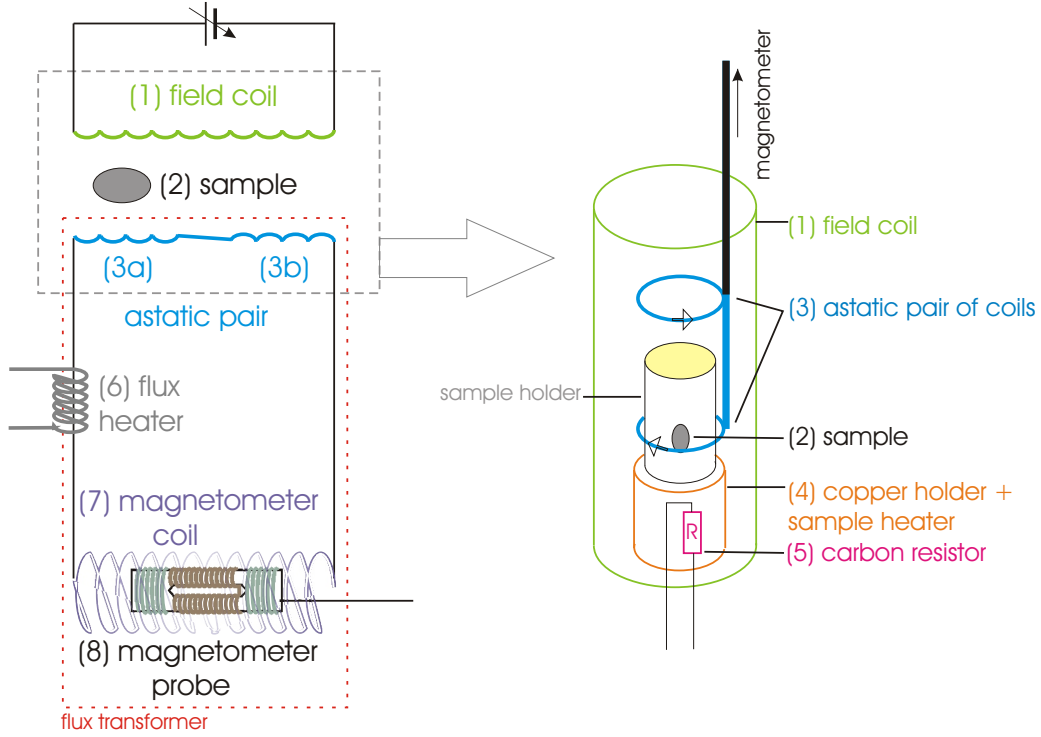

Figure 1: The experimental assembly and the coil system at the sample position.
The core part of the experimental setup is the system of coils for producing and measuring magnetic fields. The whole setup and the coil system are depicted in Figure 1. The sample (2) and an astatic pair of coils (3), which measures the magnetic moment of the sample, are situated inside the primary coil (1) which produces the external field. For measuring the magnetization of the sample, a superconducting flux transformer, which transfers the magnetic flux to another place, and a flux-gate magnetometer are used (see Fig. 2).